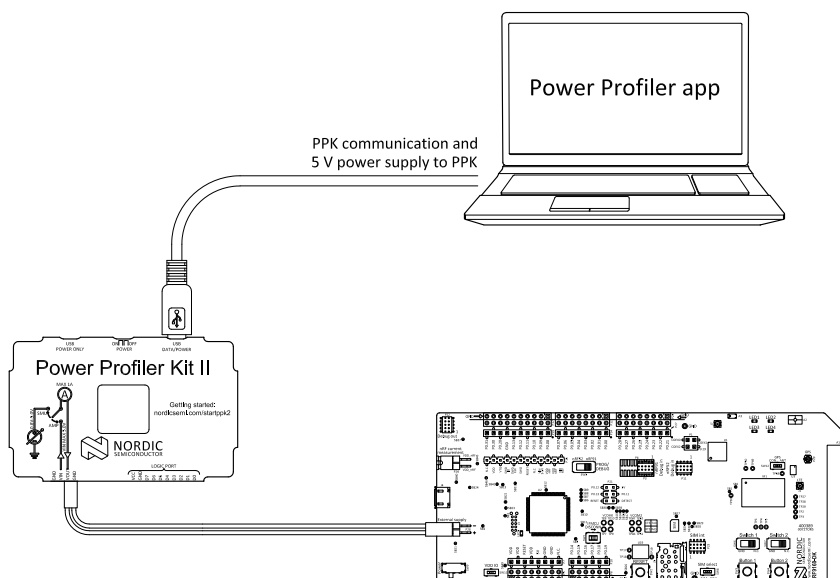

Figure 5: Measuring current in Source Meter mode
- If the PPK2 is set up to measure in Source Meter mode (see Figure 5: Measuring current in Source Meter mode on page 11), select **Source Meter**.